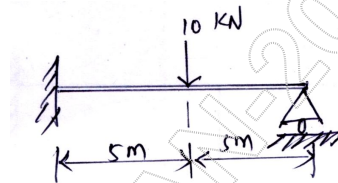

Fig. Q9 (a)
- 9 a. For the beam element shown in Fig. Q9 (a) determine deflection under the given load. Take $E = 2 \times 10^8 \text{ KN/m}^2$ and $I = 4 \times 10^{-6} \text{ m}^4$.